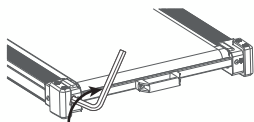

Figure 1
- If the walk belt has shifted to left, use the hex tool to turn the left idler roller screwclockwise 1/4 of a turn(refer to figure 1).